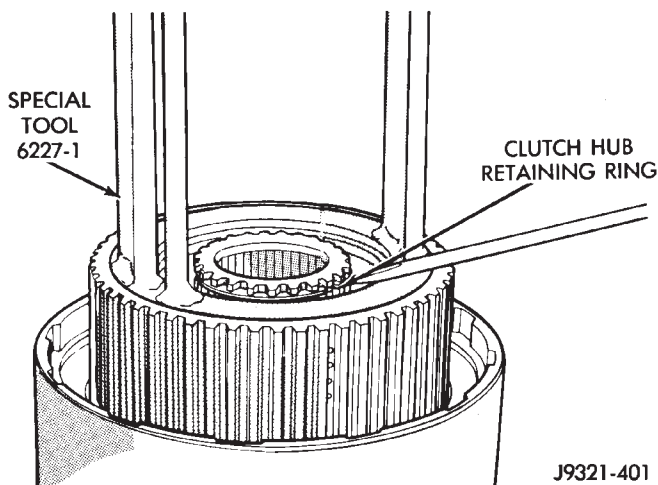

Fig. 236 Clutch Hub Retaining Ring Installation
(25) Install clutch hub retaining ring (Fig. 236). **Be very sure retaining ring is fully seated in sun gear ring groove.**
(26) Slowly release press ram, remove compressor tools and remove geartrain assembly.